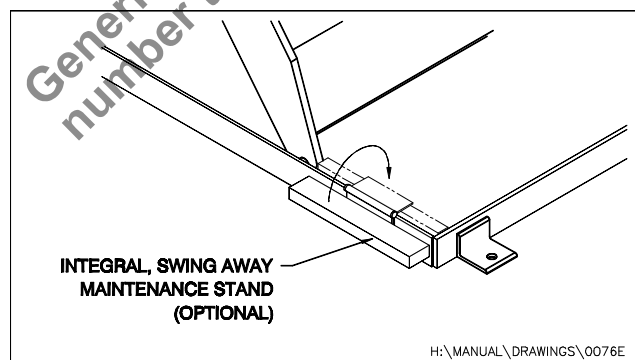

Figure 6: Optional Lift Table Supporting
**NOTE:** A weld in hinged maintenance stand is available for after sale installation. See "Figure 6: Optional Lift Table Supporting" on page 12. Contact your Pentalift representative to order.